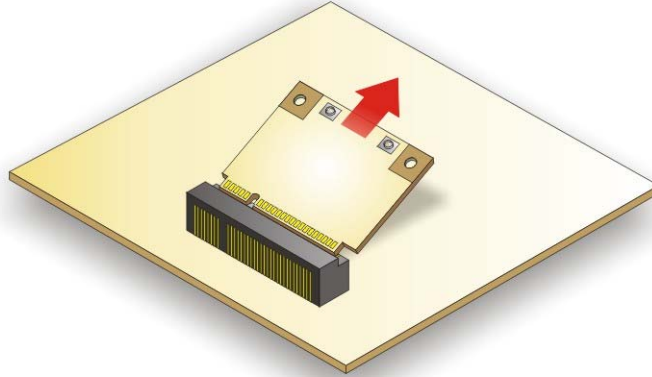

Figure 5-4: Removing the WLAN Card
Step 6: Grasp the WLAN card by the edges and carefully pull it out of the socket (**Figure 5-4**).